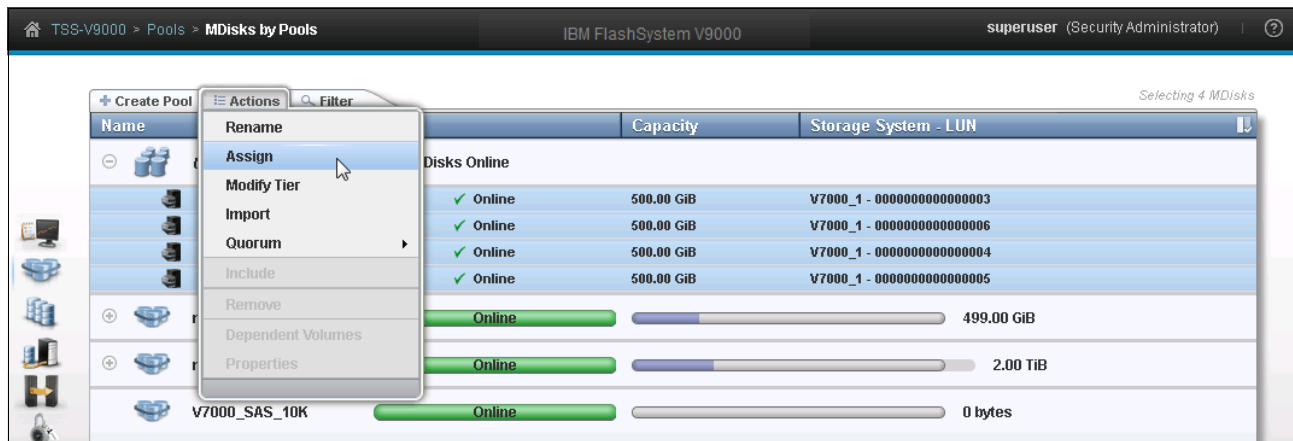

Figure 8-70 Assign MDisks to storage pool
- Select **Actions** → **Assign** to complete the creation process, as shown in Figure 8-70.
5. In the Pools > MDisks by Pools view, select **Actions** → **Modify Tier** (Figure 8-70 on page 364).